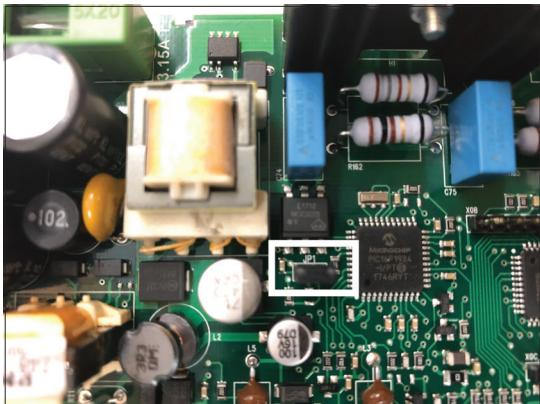

Figure 4.2, JP1 Jumper
1. Remove the control board from housing (2) screws, and disconnect all wires.
3. Locate the JP1 jumper. It is a small plastic jumper that connects two pins as shown in Figure 4.2.